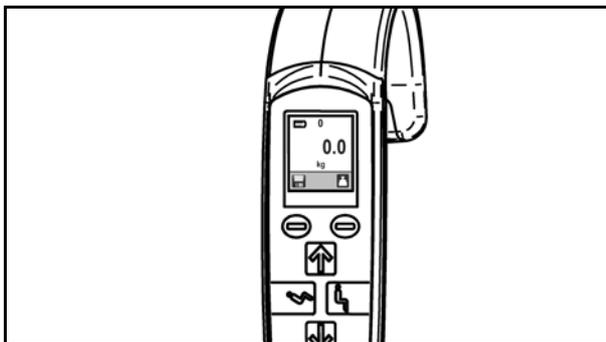

Fig. 61
3. Press the “scale” button to zero the scale. Now the display will show a zero weight (see Fig. 61).